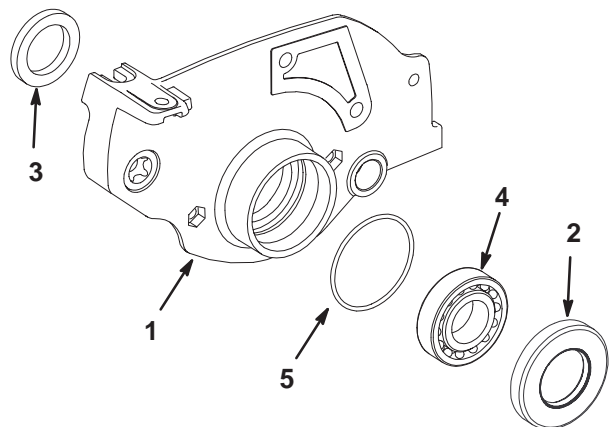

Figure 7
1. Remove the inner and outer grease seals from the side plate (Fig. 7).
2. Remove the bearing from the side plate (Fig. 7). Inspect the bearing to insure that it spins freely and has minimal axial play. The bearing balls must be free of deformation and scoring. Replace the bearing if necessary.
3. Remove the O-ring from the groove in the side plate bore (Fig. 7).
5. Insert the O-ring into the groove in the side plate (Fig. 7). Apply a light coating of grease onto the O-ring, after it is installed.
9. Press the outer seal into the side plate until it is flush with the mating surface (Fig. 7).